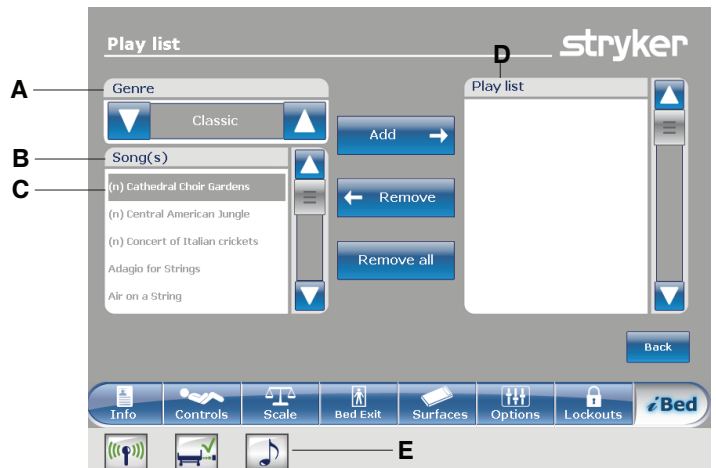

Figure 108 – Play list
Tap the up and down arrows to select a genre (A) (Figure 108).